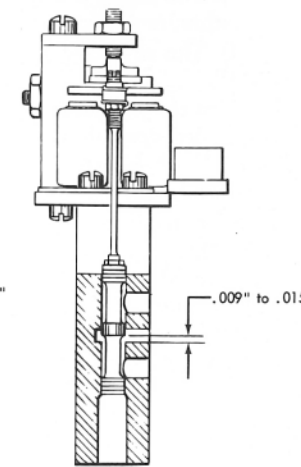

Figure 15. Space Valve Stop Position
- a. This should result in .009" to .015" clearance between the bottom of the valve and the lower surface of the rectangular port with the stop magnet energized and the armature in the stop position (Figure 15).